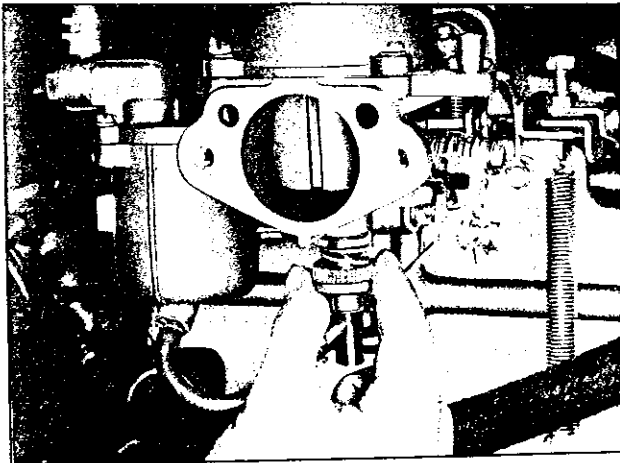

Fig. EF-38 Idle adjust nut
3. Tighten both F and R carburetor's idling adjusting nuts in the upper direction once, and gradually back them off. When turned approximately on two and half turns, the nut will contact with the stopper Return the idling adjusting nut from this position approximately half of a turn. (Refer Figure EF-38)	a. Set both F and R carburetor idling adjusting nuts to their standard positions. Under this conditions, dimension "A" (between jet bridge nozzle head) is approximately 2.2 mm (0.0866 in). Refer to Adjustment of "A" Dimension.